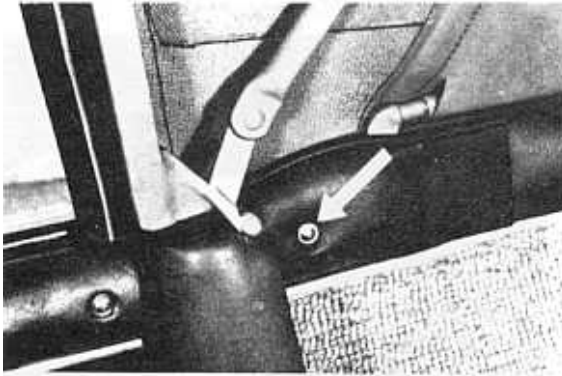

Fig. 69
4. Undo one Philips head screw at either padding of lateral top mounting (see fig. 69)